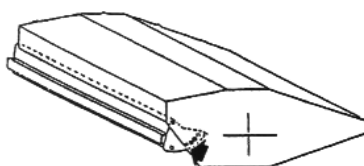

Fig. 5
3. The hatch is used in position (Fig. 5) to allow the grass clippings to escape above the roller.